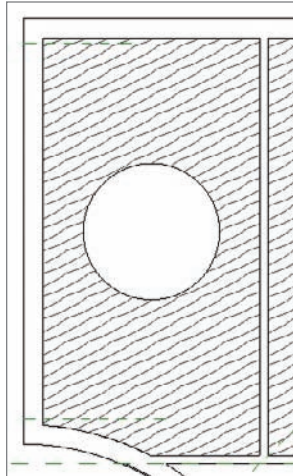

FIGURE 9.26 There's a hole in my ceiling!
11. Verify that your ceiling looks like Figure 9.26.